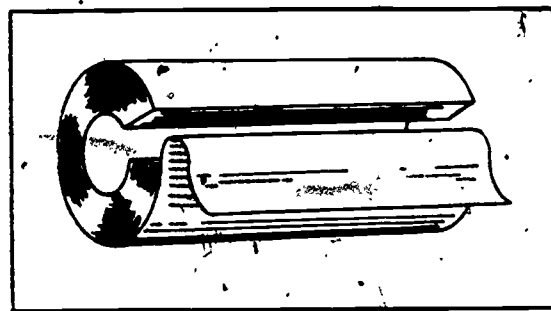

Figure 4-6. Fiberglass insulation.
f. **Fiberglass.** Fiberglass pipe insulation, shown in figure 4-6, is composed of very fine glass fibers bound and formed together by an inactive resin type mixture. It is formed into a flexible hollow cylinder, and slit along its length to permit application to pipes or tubing. Fiberglass insulation is also shaped to fit small boilers and hot water heaters. It is furnished in 3-foot lengths with or without jackets. The insulation comes in thicknesses from  $1/2$  to 2 inches and will accommodate pipes from  $1/2$  to 30 inches. Fiberglass insulation has long life; it will not shrink, swell, rot, or burn. It is easily applied, light in weight, space saving, and has excellent insulating qualities.